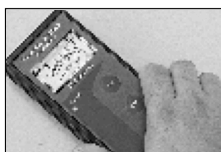

Figure 2
- Tramex Concrete Moisture Encounter Meter** (Figure 2): Moisture readings should not exceed 4.5 on the upper scale. (Figure 2 shows an unacceptable reading of over 4.5.)